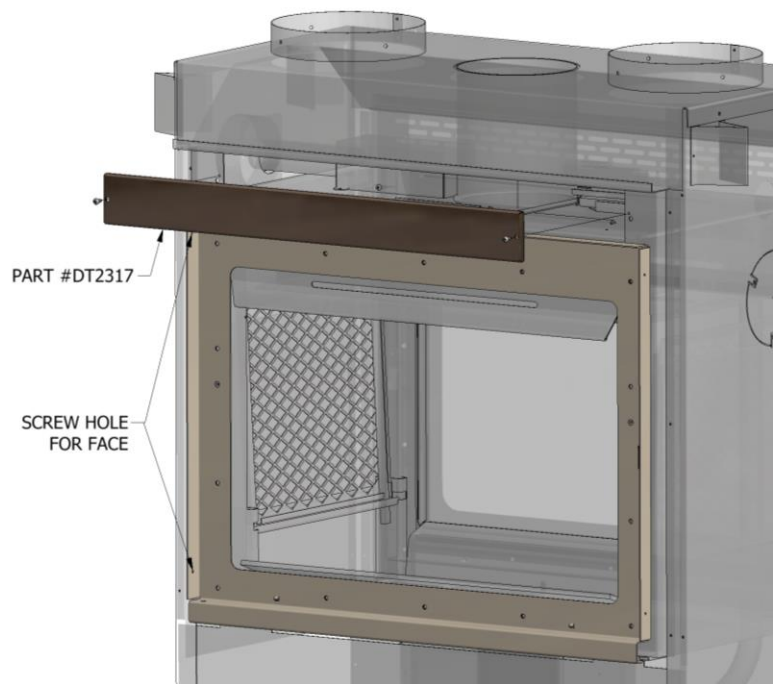

Figure 11 – Part #DT2317 installation
3. Install the part #DT2317 with both tap screws #8 (Figure 11).